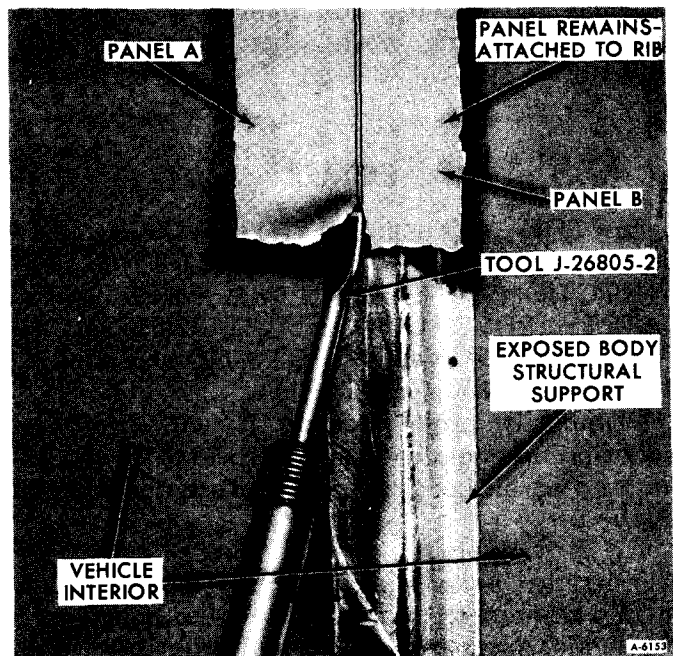

Figure 11—Panel Removal with Air Chisel - Step 4
4. Using a Flat End Scraper Bit (J-26804-2), operate the air chisel along the rib line and underneath the panel piece to break the adhesive bond between the panel and the rib. Note that figure 11 shows panel "remains" from two body side panels (panel A & panel B) being removed from the structural support. This would be necessary only if both panels were damaged. If only one panel needs replacement, only one panel is removed from the rib, using the visible seam between panels as a guide. (Refer to figure 11).